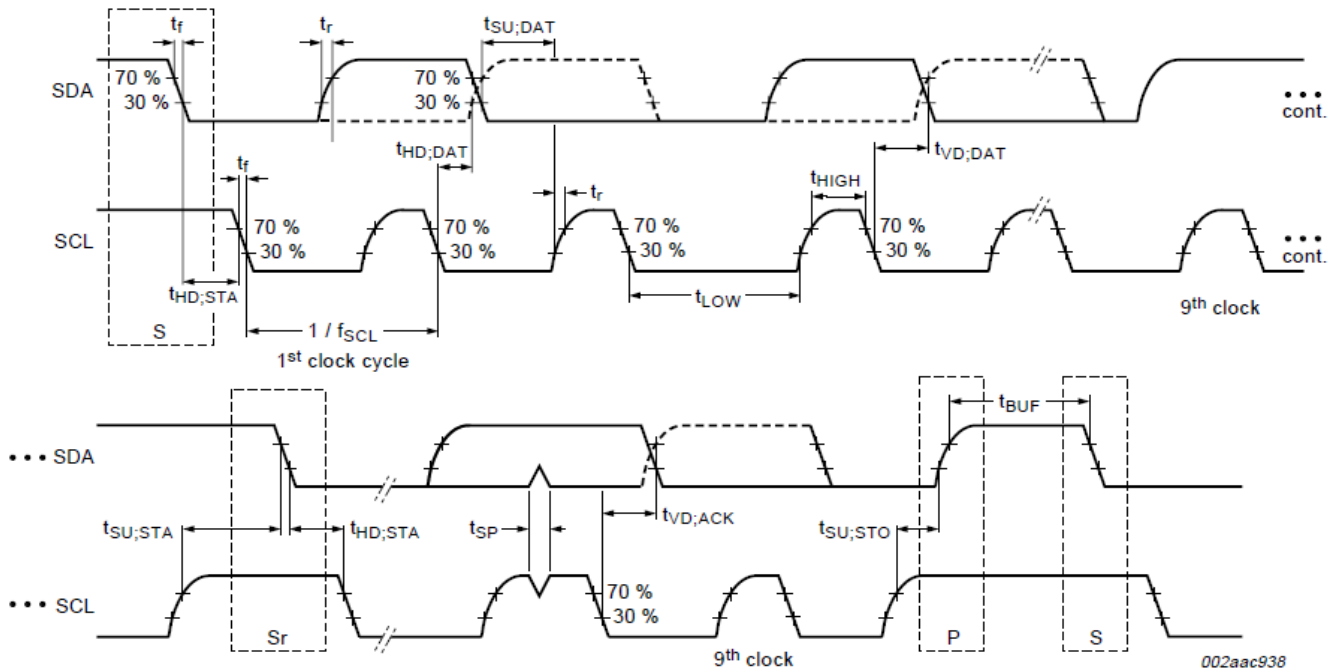

FIGURE 2. I2C TIMING DIAGRAM
**I2C Electrical Specifications** For SCL and SDA (Figure 2), unless otherwise noted,  $V_{DD} = 3V$ ,  $T_A = +25^\circ C$ ,  $R_{EXT} = 499k\Omega$  1% and  $1M\Omega$  1% tolerance.
For SCL and SDA (Figure 2), unless otherwise noted,  $V_{DD} = 3V$ ,  $T_A = +25^\circ C$ ,  $R_{EXT} = 499k\Omega$  1% and  $1M\Omega$  1% tolerance. (Continued)
or the number of clock cycles in the previous integration period (Figure 2).